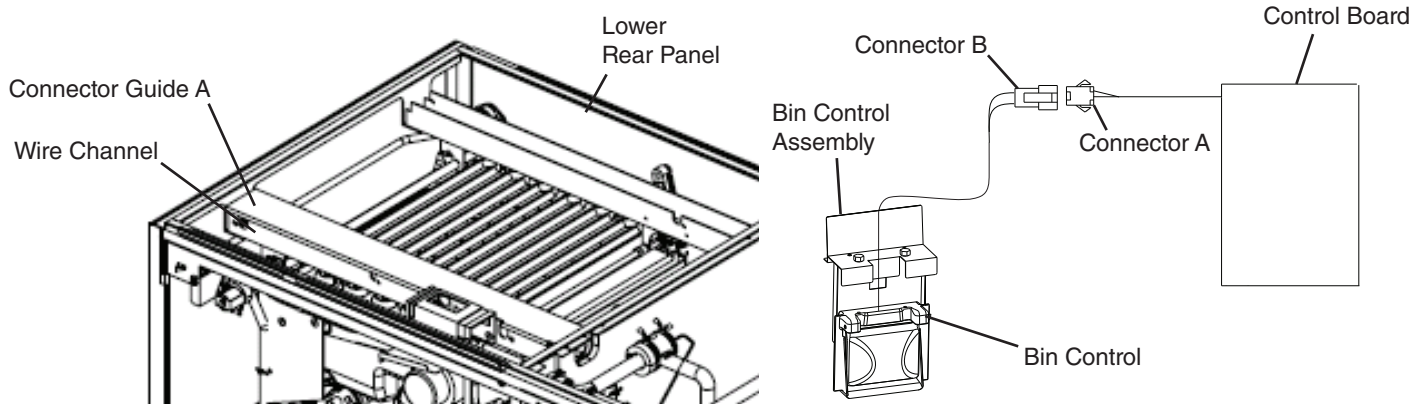

Fig. 4
- 8) Remove the top, left, and right panels. See "II.C. How to Remove Panels" in the instruction manual. Also, if not already removed, remove the lower rear panel. See Fig. 4.
- 12) Remove connector guide A, then disconnect the bin control connectors located in the wire channel. See Fig. 4.